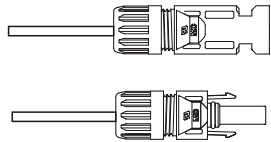

Figure 5.16 Connector with Cap nut Screwed on
4. Insert metal connector into top of connector, and tighten nut with torque 2.5-3 Nm (see figure 5.16).